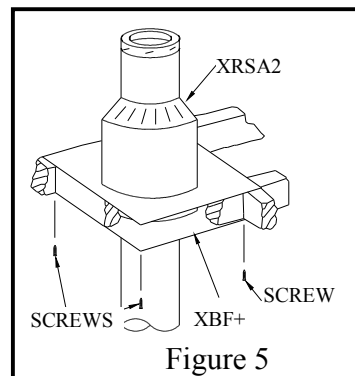

Figure 5
- 4** From below, install a firestop (XBF+) in each floor through which the chimney passes. At the attic level, install a firestop plate (XBF+) from below; from above install an attic radiation shield (XRSA2) (See Fig.5).